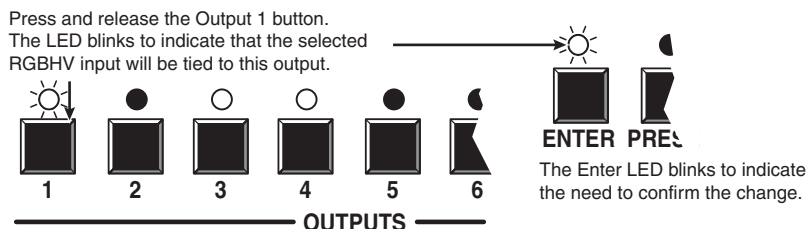

Figure 3-12 — Select the output
4. Press and release the Output 1 button (figure 3-12).